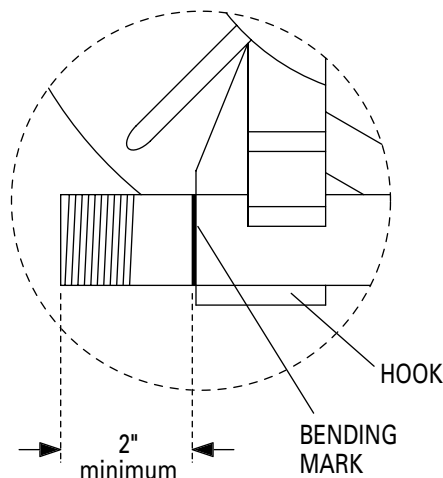

Figure 12
2. Mark the conduit to the desired length. Note that a 2" minimum dimension is required to eliminate flattening the end of the conduit. See Figure 12.
4. After marking the conduit, place it into the bender. The conduit should slide over the support rollers and through the shoe groove and into the hook. The bending mark should be at the front (OUTSIDE) edge of the hook. See Figure 12.